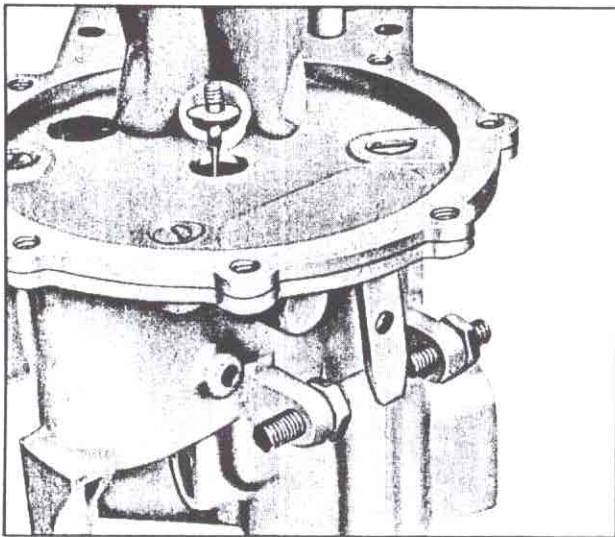

Fig. 137—Removing Nylon Shield
12. Remove the nylon shield from the link by lifting and tipping it to one side so that the slot in the shield will clear the link (fig. 137).